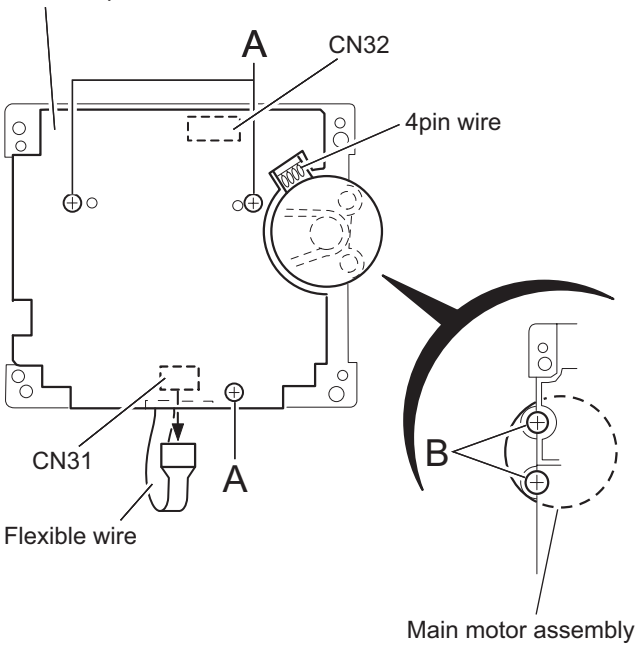

Fig.4
3.4.2 Removing the head amplifier & mechanism control board (See Fig.4)
- (1) Remove the four screws **B** on the front of the body.
- (2) Pull out the woofer speaker toward the front and disconnect the wire (yellow and black, red and black) from the two speaker terminals.
3.5.1.3 Removing the tweeter speaker (See Fig.4)